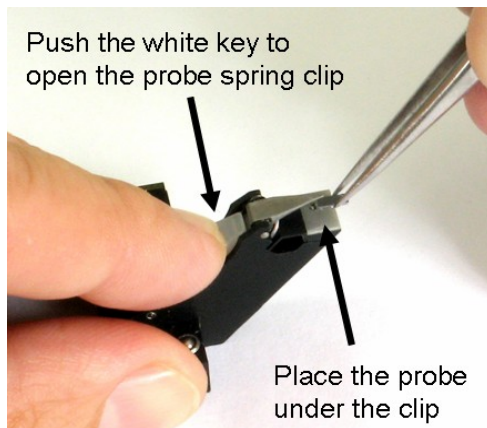

Figure 3.4.3 Installing the probe holder into the probe holder.
- Push the white key to open probe's spring clip (fig. 3.4.3).